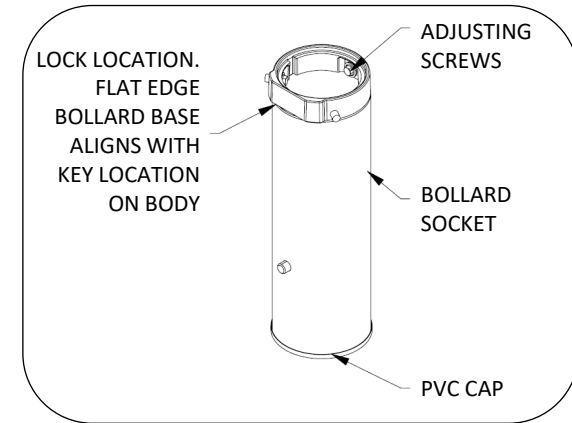

FIG. 1 - REMOVABLE BOLLARD SOCKET DETAIL
2. Before pouring concrete, make sure the socket is plumb and in the correct orientation. The top of the socket should be flush with the top of the concrete after installation. NOTE: An alignment guide is built into the assembly. The alignment guide consists of a flat edge on one of the components. This flat edge aligns with lock on the bollard body. See Fig. 1.